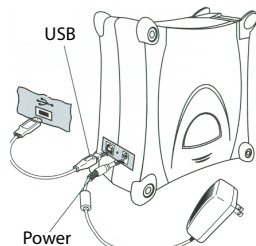

Figure 3
- 1 Plug the power adapter into the power connector on the back of the printer. See Figure 3.
- 1 Plug the USB cable into the USB port on the back of the printer. See Figure 3.